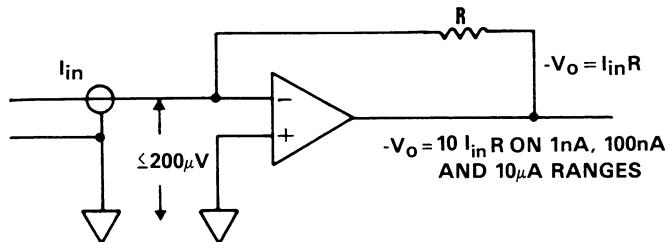

Figure 2-3. Model 480 Feedback Picoammeter
6. Inverting Analog Output. Two banana jacks (shown in Figure 2-1) are rear panel accessible, and permit monitoring or recording of the output from the current-to-voltage converter within the Model 480. Since the 480 is a feedback picoammeter, as shown in Figure 2-3, the input current is forced through the feedback resistor and an inverted analog output voltage is developed by the operational amplifier. The feedback (Range) resistors are selected such that voltage for an on-scale reading on any range will be between zero and  $\pm 2V$ . The relationship between the analog output signal and the digital display is